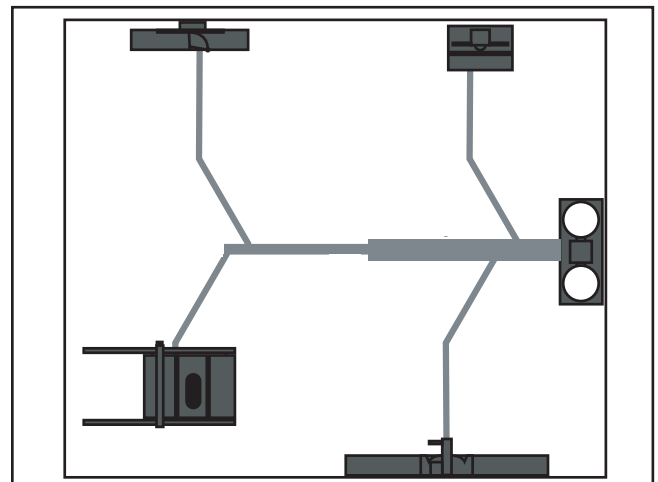

Figure 33. Good duct layout.
2. Ideally, you should design the duct system to have the shortest possible main line and secondary branch ducts. See **Figures 33 & 34** for ideas of good duct layouts vs bad duct layouts.